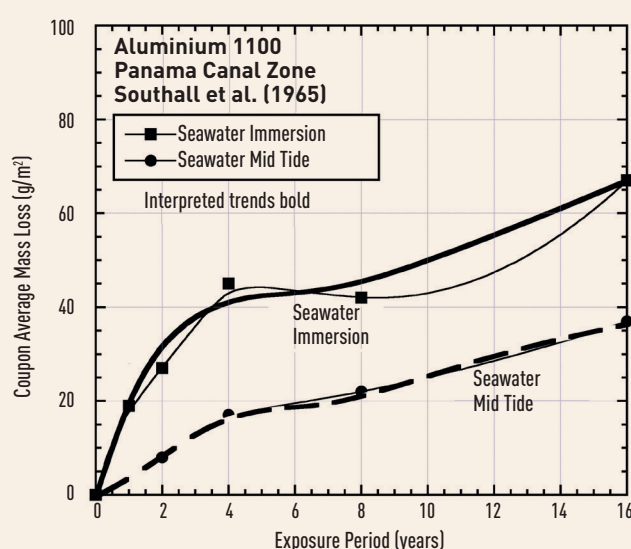

Figure 2. Data and interpreted trends for Al 1100 exposed to marine immersion and tidal immersion conditions. Data from Southwell, et al. (1965).
Fig. 2 shows data sets for aluminium Al 1100 exposed for 16 years to seawater immersion and mid-tide conditions in the Panama Canal Zone (PCZ). Generally similar trends apply to Al 6061-T (Melchers 2014a). In both cases the data show a gradual decline in the rate of corrosion loss for the first few years. This is followed, after about 6 years of exposure, by a sudden and then declining increase. Obviously, this pattern is quite inconsistent with the power law Eqn. (1). Trend lines (light) have been drawn through the data using a standard smooth curve fitting routine employing the Stineman (1980) smoothing function. More generally, it can be seen that the light trends are broadly consistent with the bi-modal trend (Fig. 1). That trend is shown with the bold lines, termed 'interpreted' trends. They are anchored at the data points (i.e.